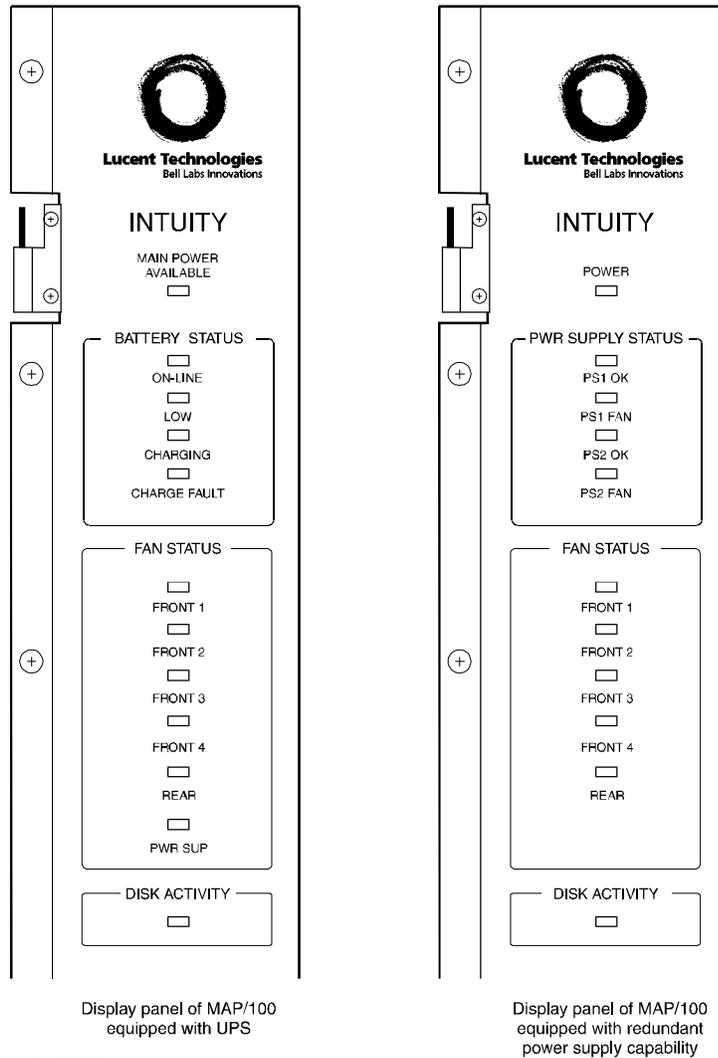

Figure 7-15. MAP/100 Front Display Panels
MAP/100 platforms equipped with a power module assembly with redundant power supply capability can be distinguished from MAP/100 platforms equipped with a UPS by viewing the front display panel on the platform (Figure 7-15).
8. Make sure the "PS1 OK" and "PS1 FAN" light on the front panel of the MAP/100 are both lit (Figure 7-15).